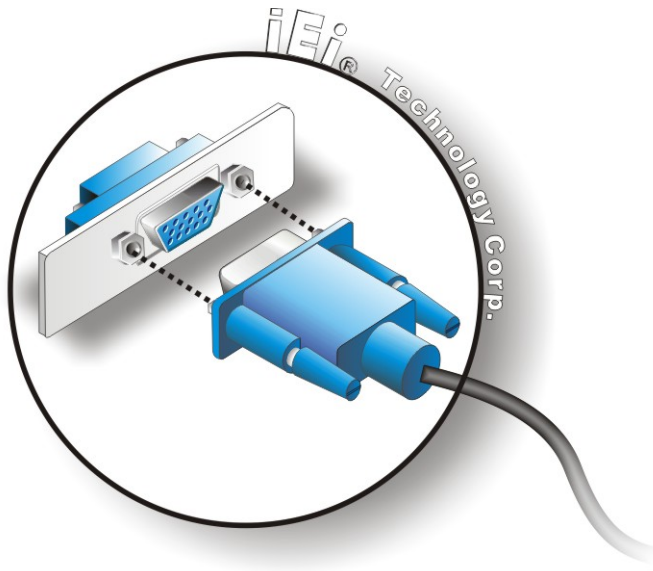

Figure 4-20: VGA Connector
- Step 5: Insert the VGA connector** Once the connectors are properly aligned with the insert the male connector from the VGA screen into the female connector on the KINO-945GSE3. See Figure 4-20.